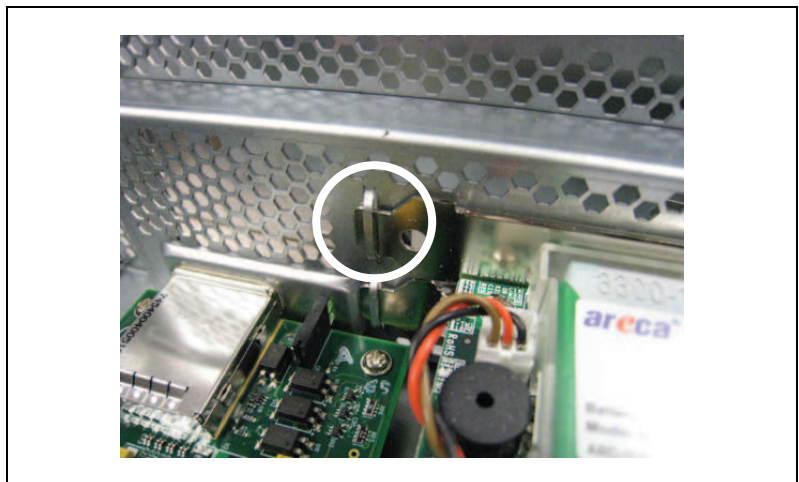

Figure 6. Sliding the Battery Pack Accessory Bracket into the Mating Chassis Feature
5. Insert the battery pack accessory into the available chassis slot by sliding the bottom of the bracket into the mating chassis feature, as shown in Figure 6.